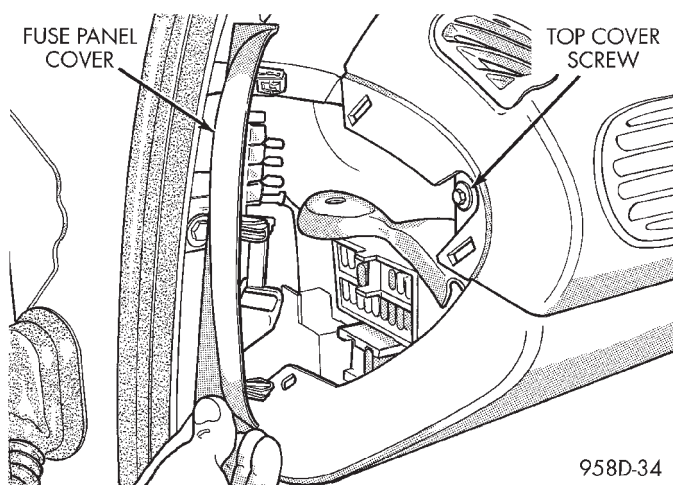

Fig. 61 Instrument Panel Top Cover—Left End
(1) Disconnect negative cable from auxillary jumper terminal on driver's side strut tower.
(2) Remove fuse panel cover from left end of instrument panel. Remove screw holding end of instrument panel top cover (Fig. 61).